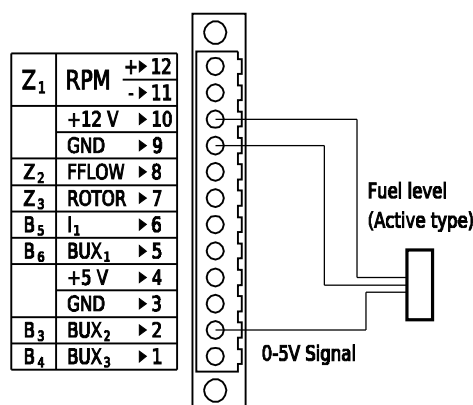

Figure 33: Active fuel level sensor connection schema.
- Sensor has three wires. Connect sensor +5/+12 V *input* to appropriate +5/+12 V pin according to your sensor specifications. Ground is connected to GND pin and signal must be connected to the correct channel. See figure 33 for proper connection schema.